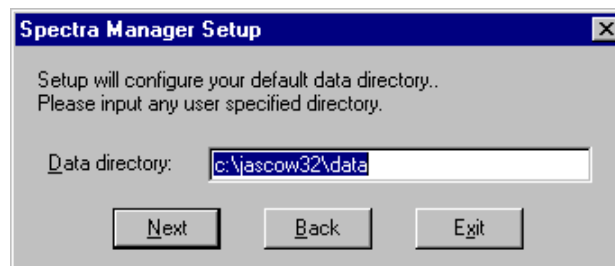

Figure 10.9 Data Directory input screen
- (1) Input the drive and name of the target [Spectra Manager] program directory. The following directory name should be used:
- (2) Click the <Next> button. The screen shown in Fig. 10.9 appears.